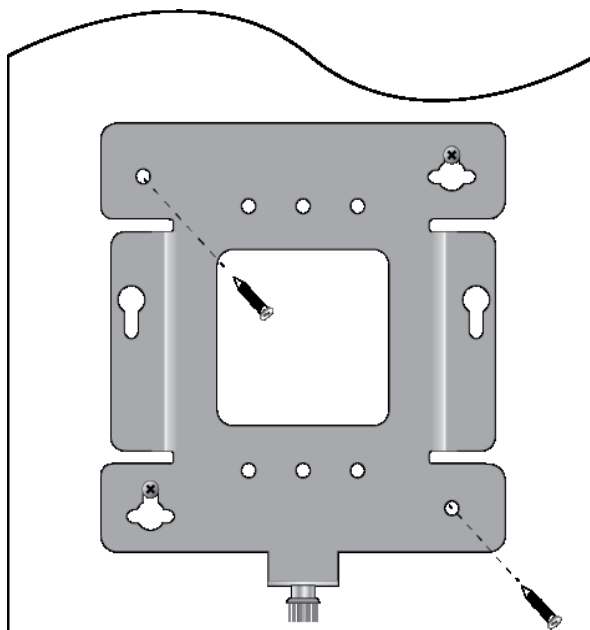

Figure 21. Securing the Wall Mounting Bracket
9. Install and tighten two M4 screws (not provided) in the holes prepared in Step 8. Refer to Figure 21. The bracket installation is now complete.